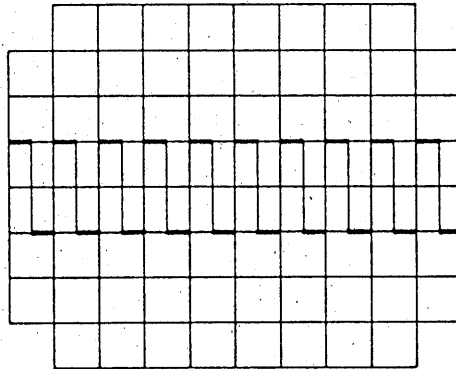

Fig. 5
3) Connect the signal of the CAL (1 Vp-p) terminal to the vertical INPUT terminal (17) using the lead with BNC connector or other appropriate cord.
4) Set the  GND (20) switch in the popped up state (), and so adjust the LEVEL knob (26) that the displayed waveform becomes stationary. A waveform as shown in Fig. 5 should be displayed on the CRT screen.